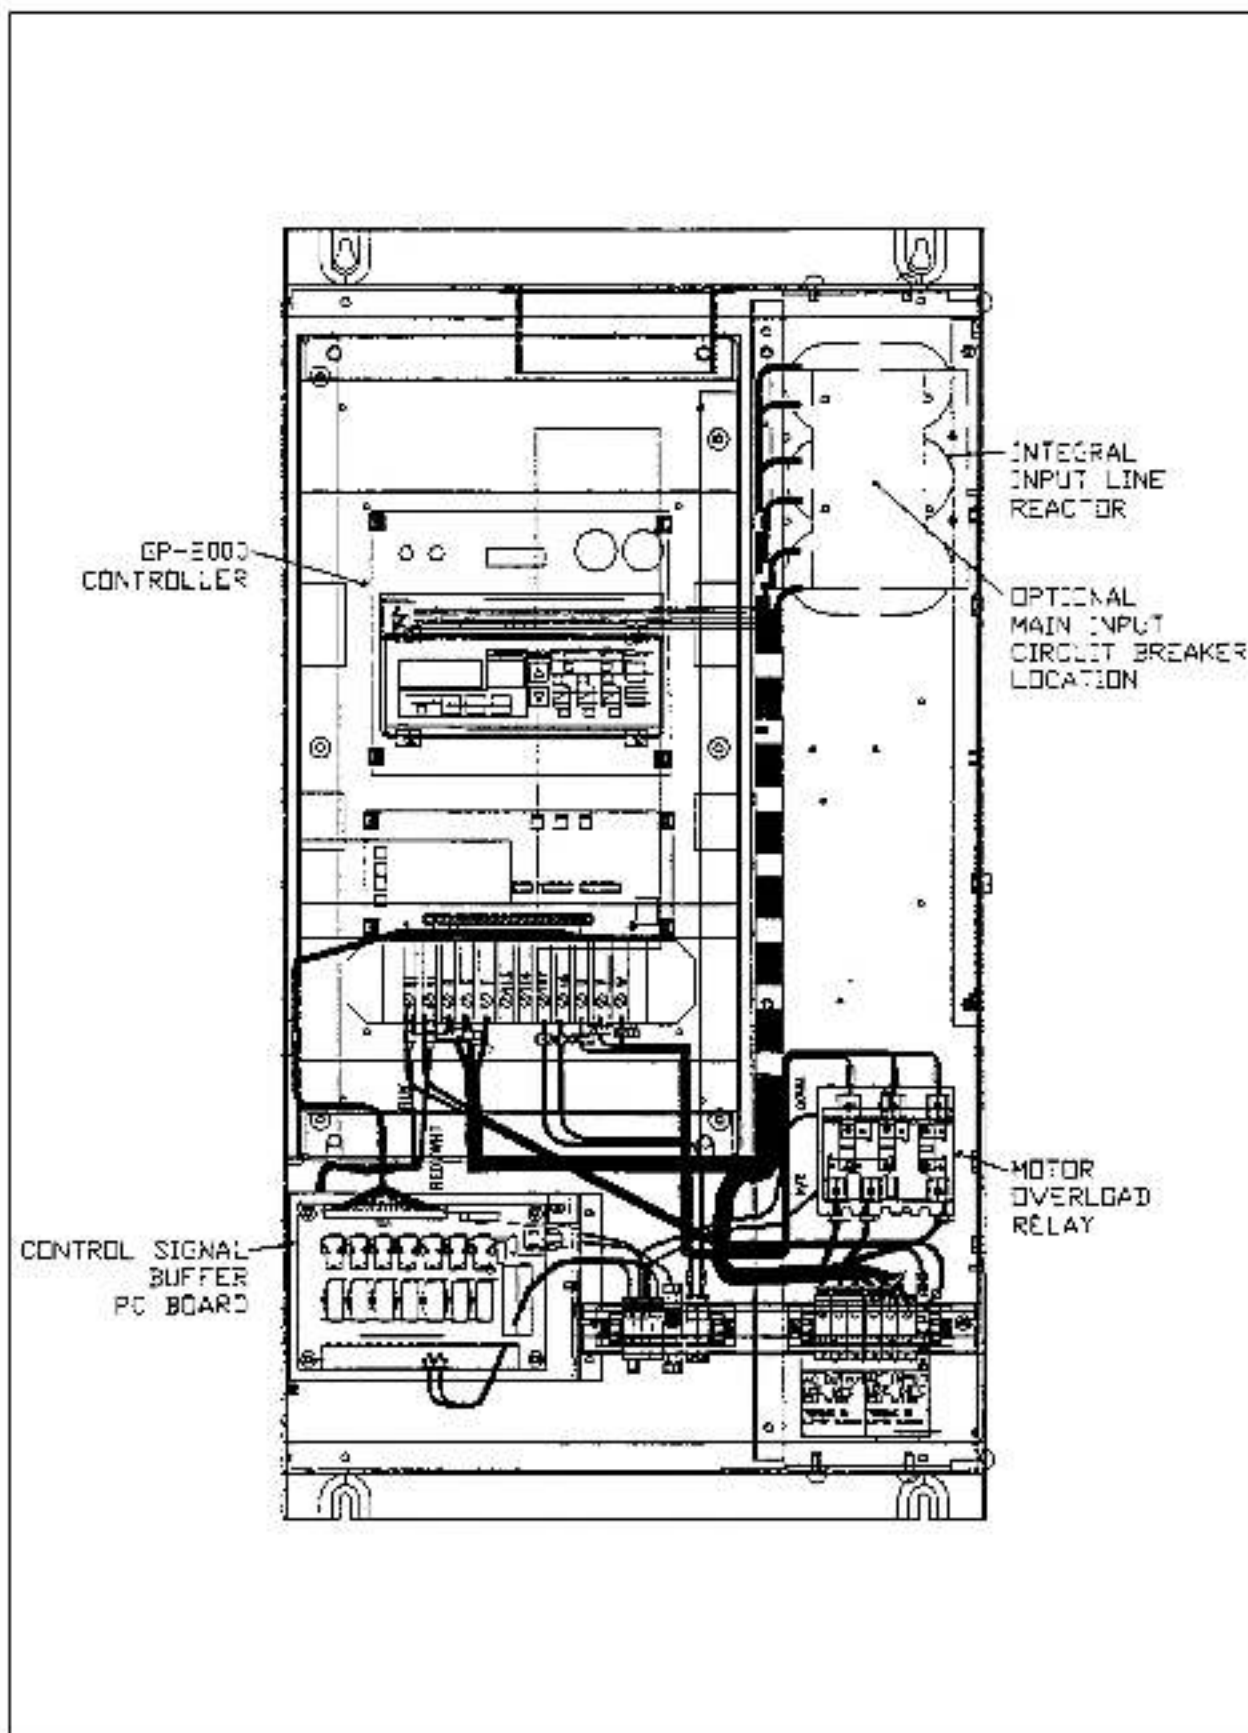

Figure 1. Typical Expanded Cabinet Component Locations (20 HP shown).
The Expanded Cabinet Kit provides a convenient means to mount the GP2000 controller and its kits within the same cabinet. The controller mounts in the left-hand side of the enclosure, and the kits mount in the channel on the right-hand side (See Figure 1). A factory-installed inverter Bypass option is also available. (See Figure 9A and pages 13-14 for details.)
1. Locate the controller on the left-hand side in the Expanded Cabinet (Figure 1).